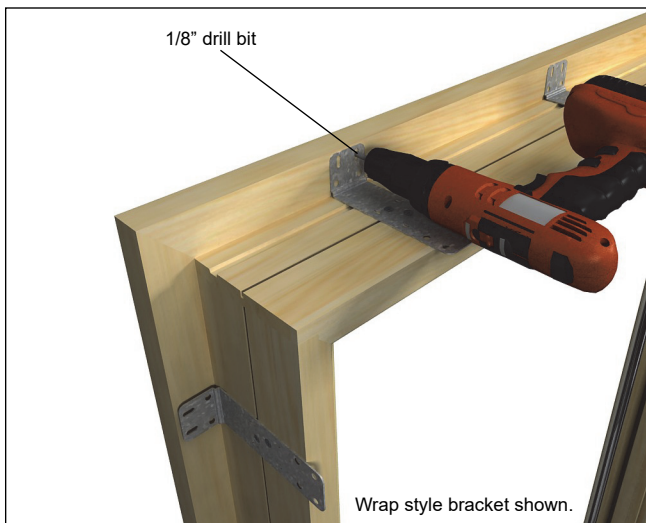

Figure 6 Wood unit with casing shown. Applies to clad units with nailing fin as well.
5. Pre-drill through the casing (or nailing fin) using the holes on the bracket as a guide. Follow the installation instructions to square and plumb the unit in the opening. See figure 6.